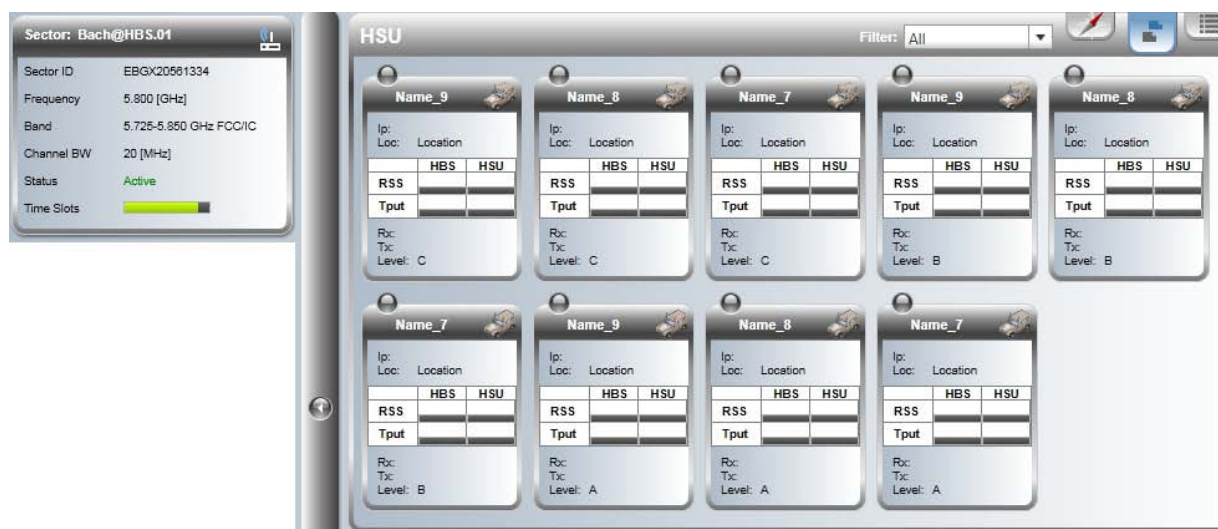

Figure 9-3: Preparing to upload the Mobility file
1. In the window of Figure 9-3, enter a HBS list file. The format of the file is lines of